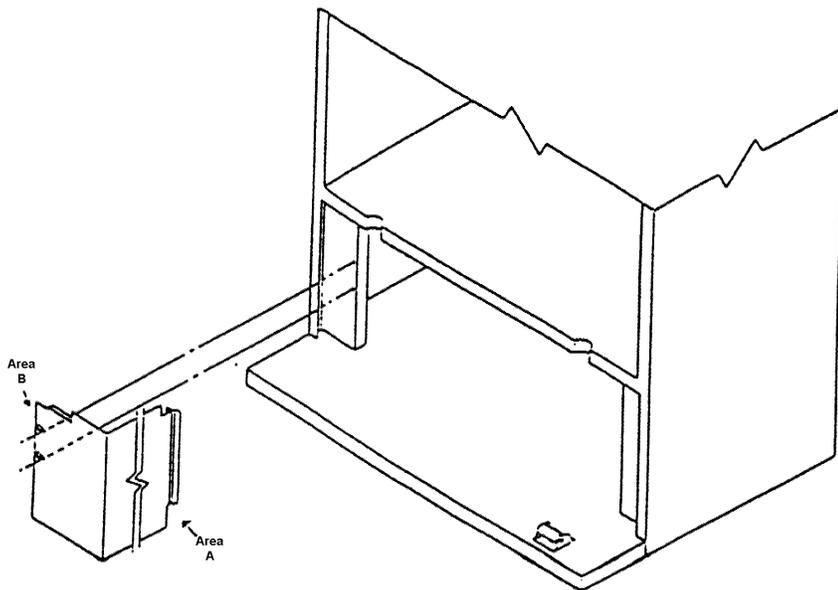

Figure 4
16. On Ranson built venders with plastic or cardboard baffles, install the new left metal baffle (805,800,65x.x1 or 805,800,68x.x1 on 630). (See figure 4, page 7)
- a. Hook right side baffle (Area A, figure 4, page 7) over edge of condenser fan shroud.
- b. Secure left side of baffle (Area B, figure 4, page 7) with two No. 8 self drilling screws by tightening the screws and then back screws off two turns to allow the baffle to be removed without tools.